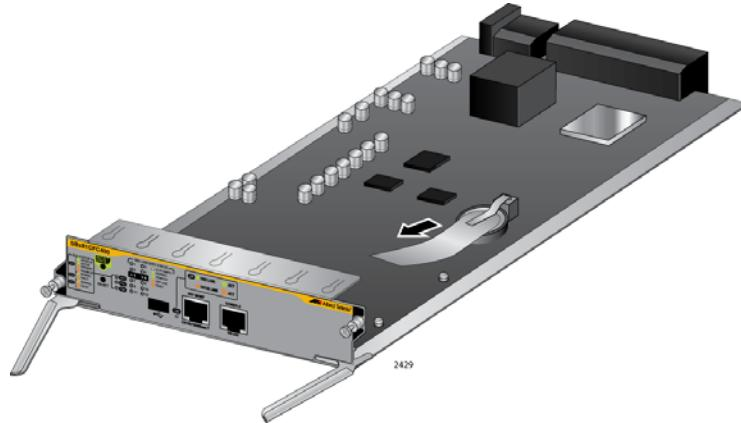

Figure 67. Removing the Battery Insulator
5. Carefully remove the battery insulator tab on the controller card by sliding it out from between the battery and battery clip, as shown in Figure 67.